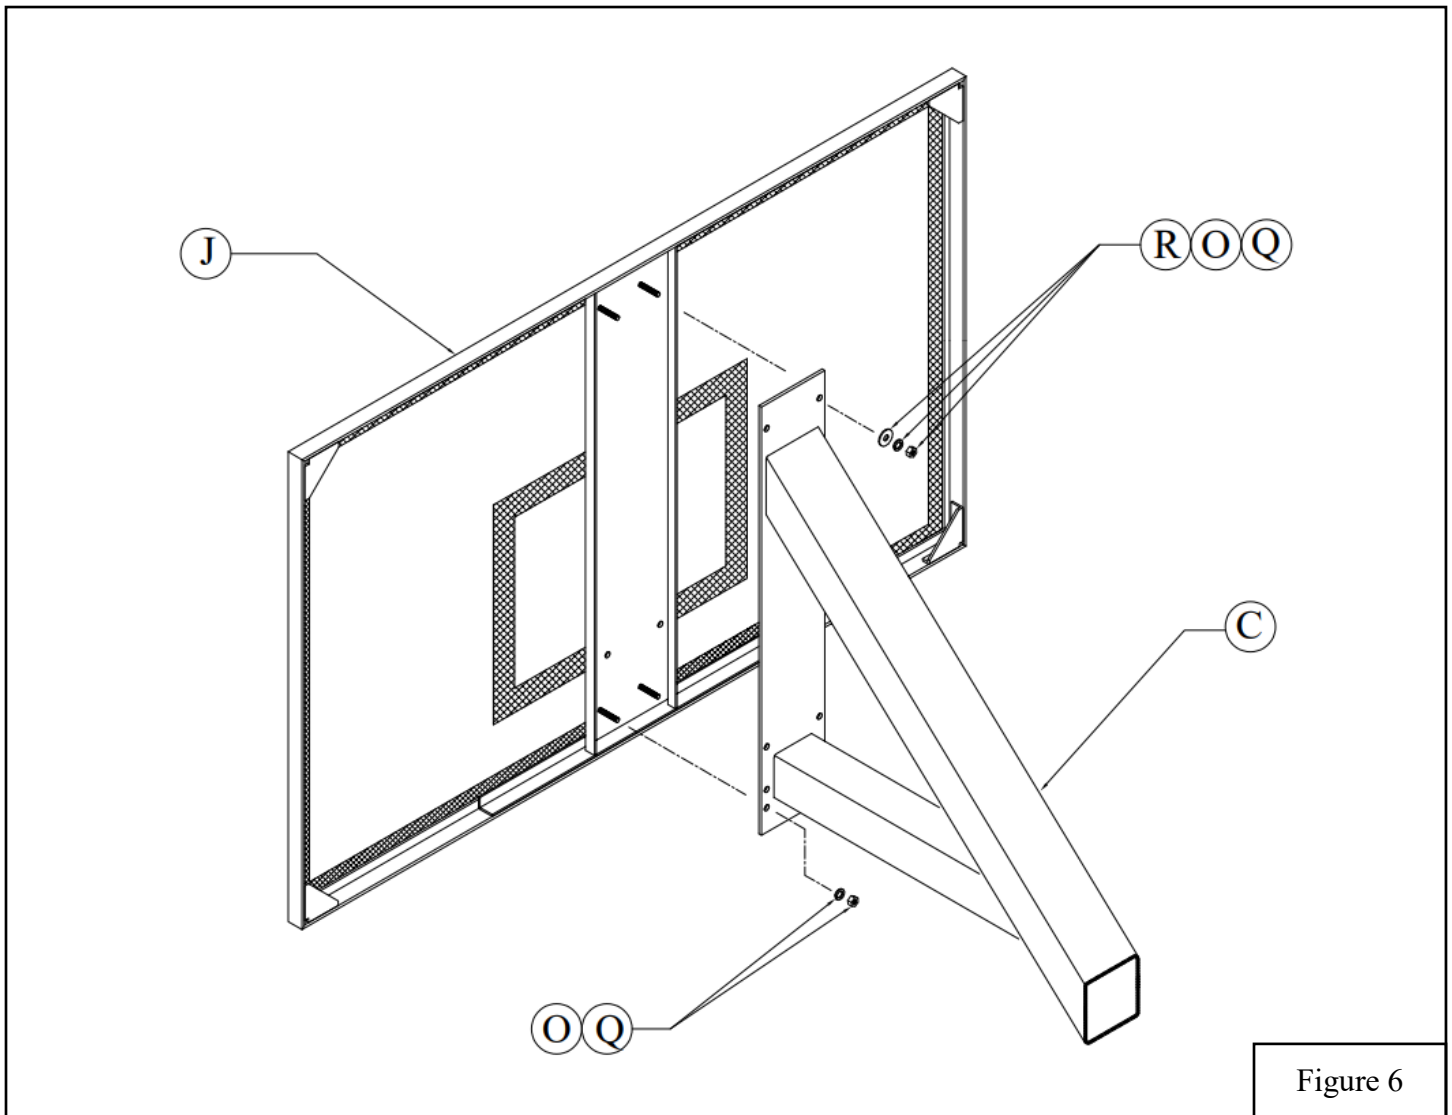

Figure 6
- 20y. Remove the $3/8$ " Hex Nuts (Q), $3/8$ " Flat Washers (R) and $3/8$ " Lock Washers (O) that are preinstalled on the $3/8$ " threaded studs on the BA42RG and BA42RGU Backboard (J).
- 21y. Align the $3/8$ " threaded studs on the backboard frame with the hole in the *Extension Arm* (C). Loosely reinstall the $3/8$ " flat washers, lock washers, and hex nuts. See Figure 6.